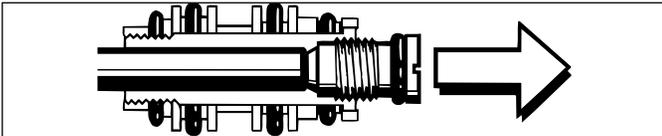

Figure 5
1.1.13 When the crown has been unthreaded from the crown housing, insert the large, blunt end of the seal/seat extractor (P/N 5116236) through the opposite end of the crown housing, and gently press out the crown (see Fig. 5). Remove and discard the crown O-ring(3).